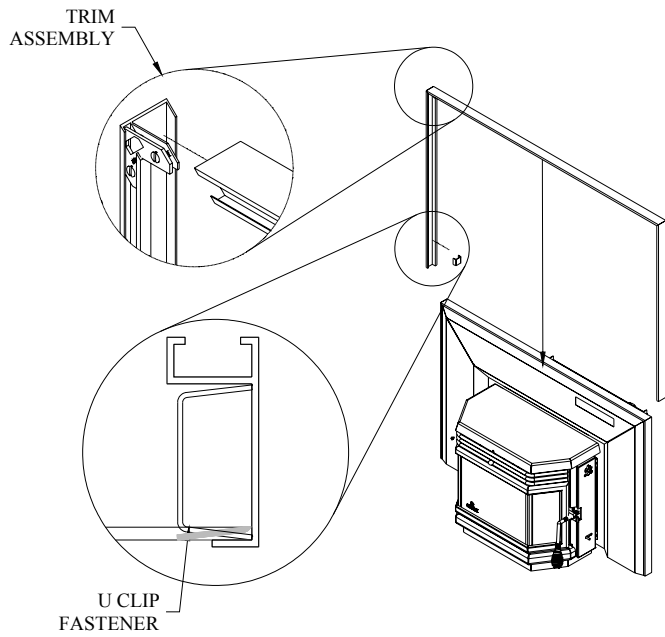

Figure 33
- 7- Assemble the trim kit corners with L brackets and slide it down on the faceplate as shown in Figure 33. Use the U clip fasteners to attach the trims to the faceplate.